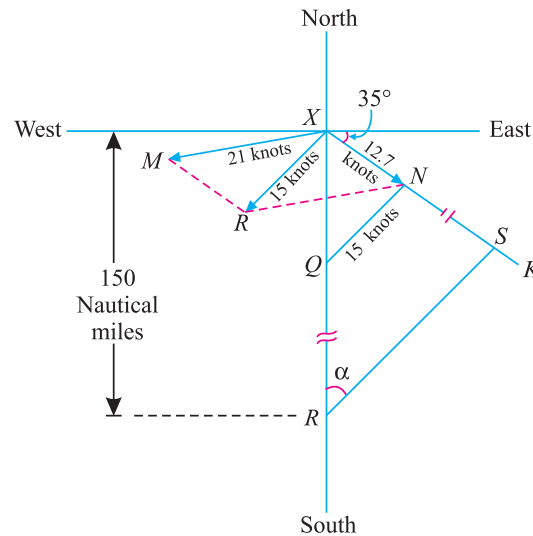

Fig. 19.9.
4. Now cut off XR equal to 150 nautical miles on the line representing the South direction (because the warship is stationed 150 nautical miles south of the submarine) to some other scale. Through R, draw RS parallel to the line QN meeting the line XK at S as shown in Fig. 19.9.